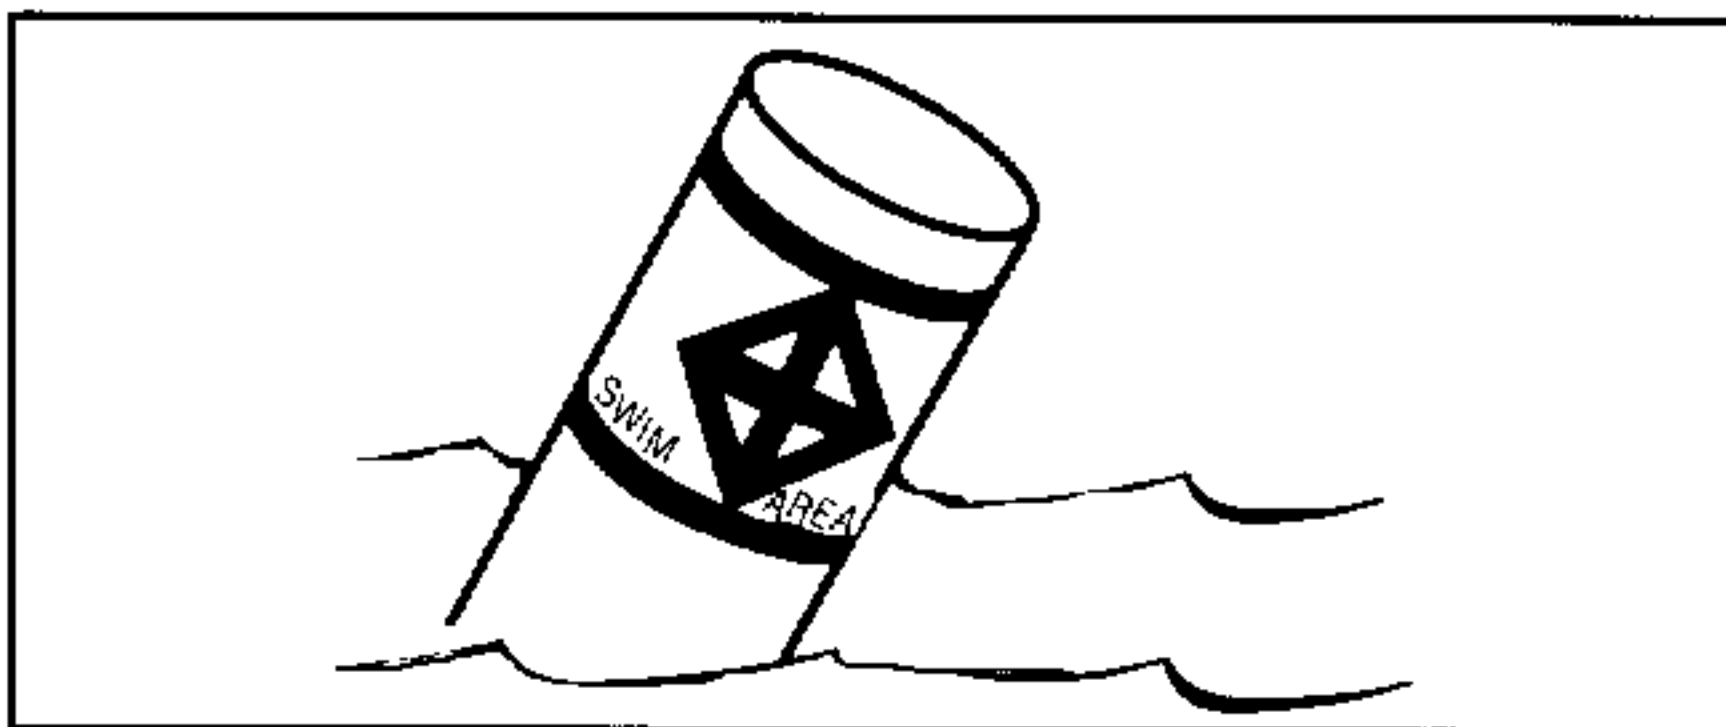

FIGURE 2.10 SWIM AREA BUOY
8. Swim only in areas designated as safe for swimming. These are usually marked with a swim area buoy (Figure 2.10). Do not swim alone or at night.